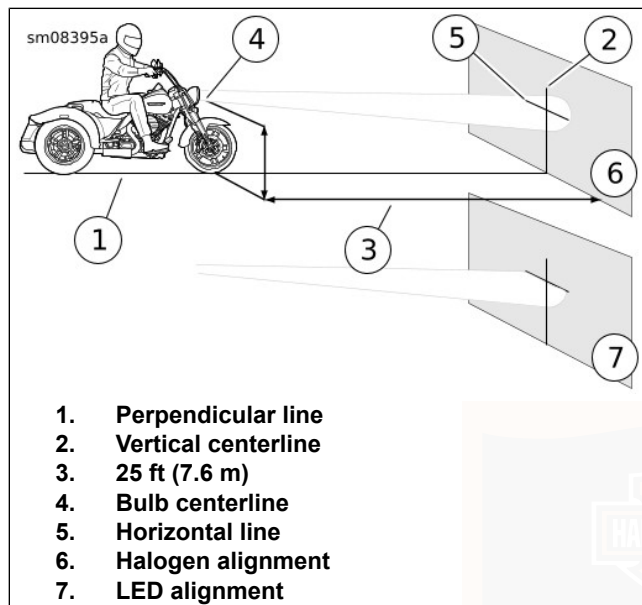

Figure 76. Headlamp Alignment: FLRT Single Headlamp
4. See Figure 76. Park the motorcycle on a line (1) perpendicular to the wall.
6. Draw a vertical line (2) on the wall.
4. Loosen vertical adjustment screw (1).
5. See Figure 76. Tilt headlamp up or down until light beam is correct.